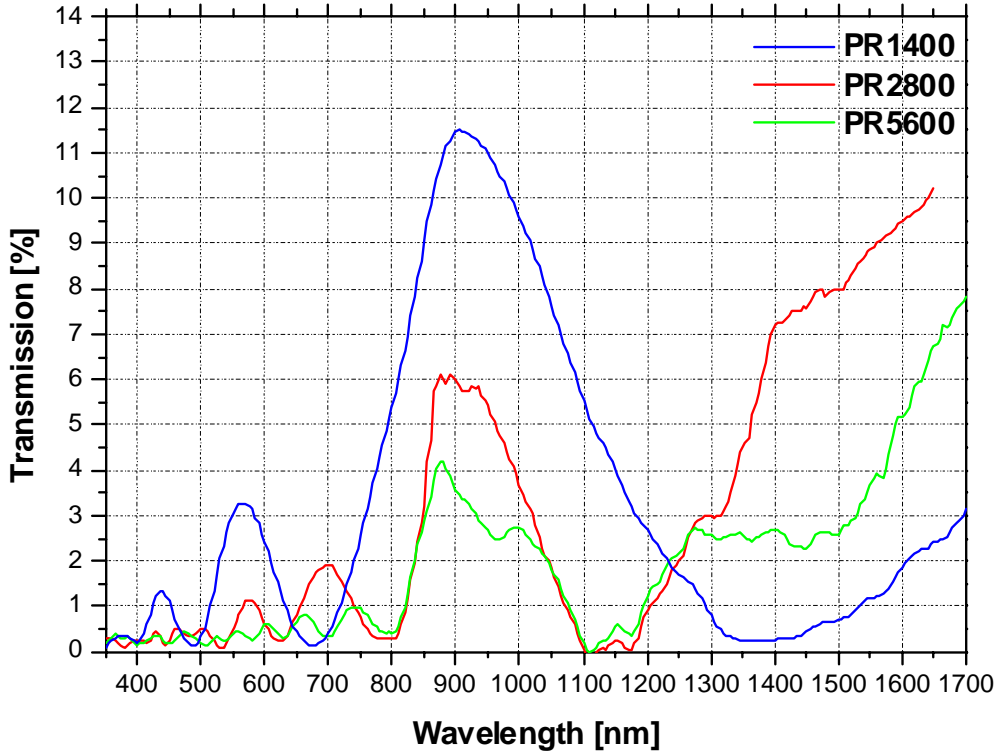

Fig 6: Measured transmission (when placed between two Glan-Thomson polarizers) for the three standard models
- 1) Use the Arcoptix digital LC Driver that has two independent outputs that are computer controlled via USB and optimized for liquid crystal device driving (see figure 6). It generates a square signal of 1.6 KHz with variable amplitude between 0V and 9V. The LC driver produces a highly stable signal with a precision of 1mV. However only two levels are relevant for driving the cell 0V and 9V (e.g. minimal and maximal value) for switching off and on the TN cell.